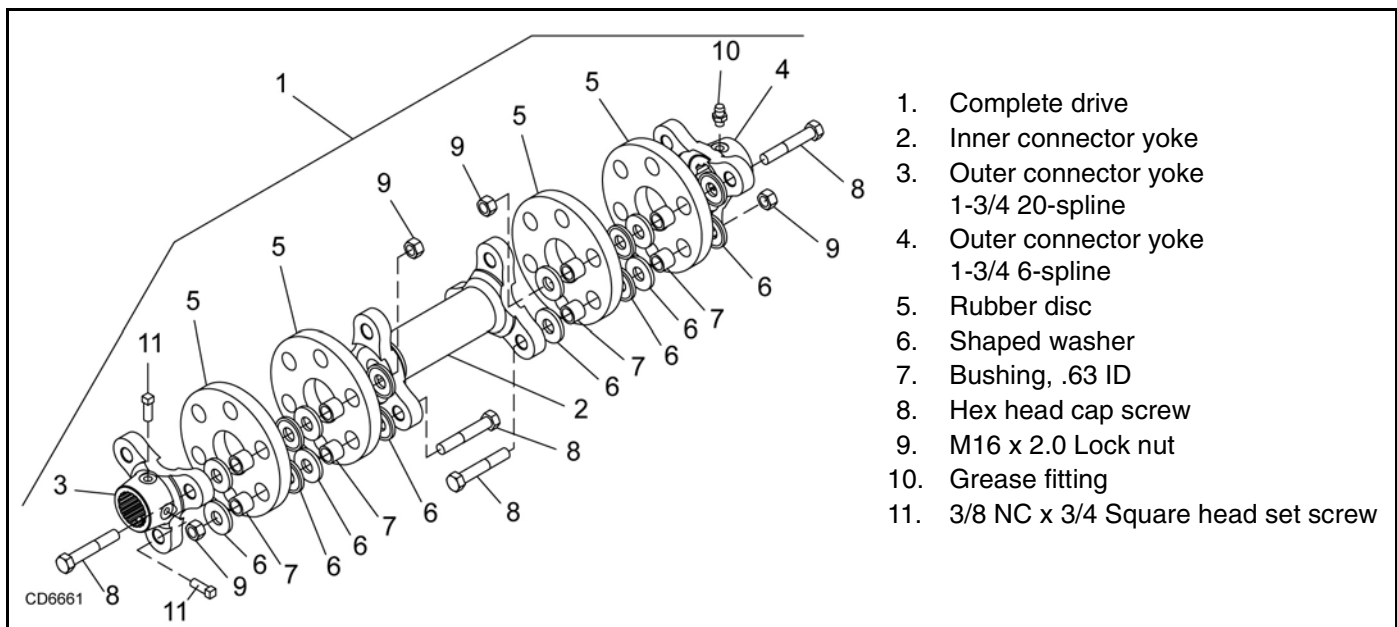

Figure 16. Flexible Coupler
To replace the disks, remove hardware items (6, 7, 8, and 9). Remove sleeves (7) from old disk and install in new disk. Reassemble and torque bolts to 85 lbs-ft. See Figure 16. Take special care not to rotate gearbox shaft and throw blades out of time. If rubber disks have failed and blades are hitting, you will need to re-time the blades per instructions on page 34.